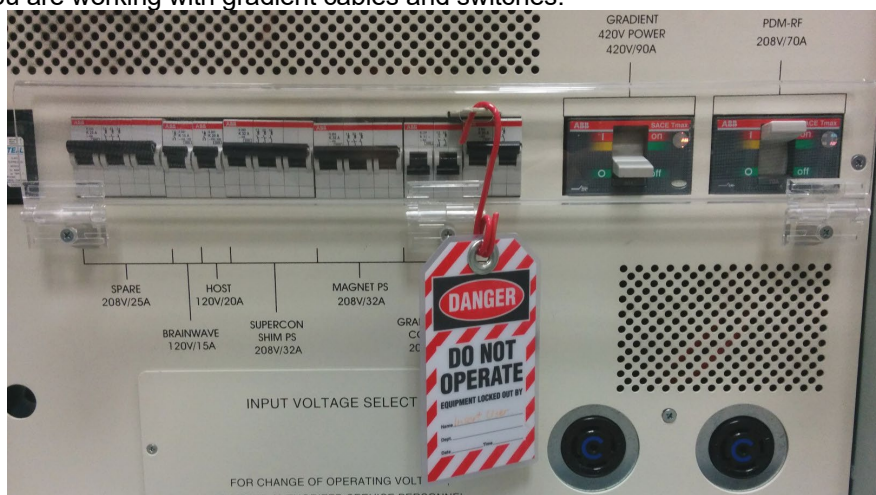

Figure 3. Use lockout tag when gradient amplifiers are off and while switching gradient cables
- 5) Close plastic cover, and use the lockout tag (Fig 3, stored on top of chiller) while gradient amplifiers are off and you are working with gradient cables and switches: